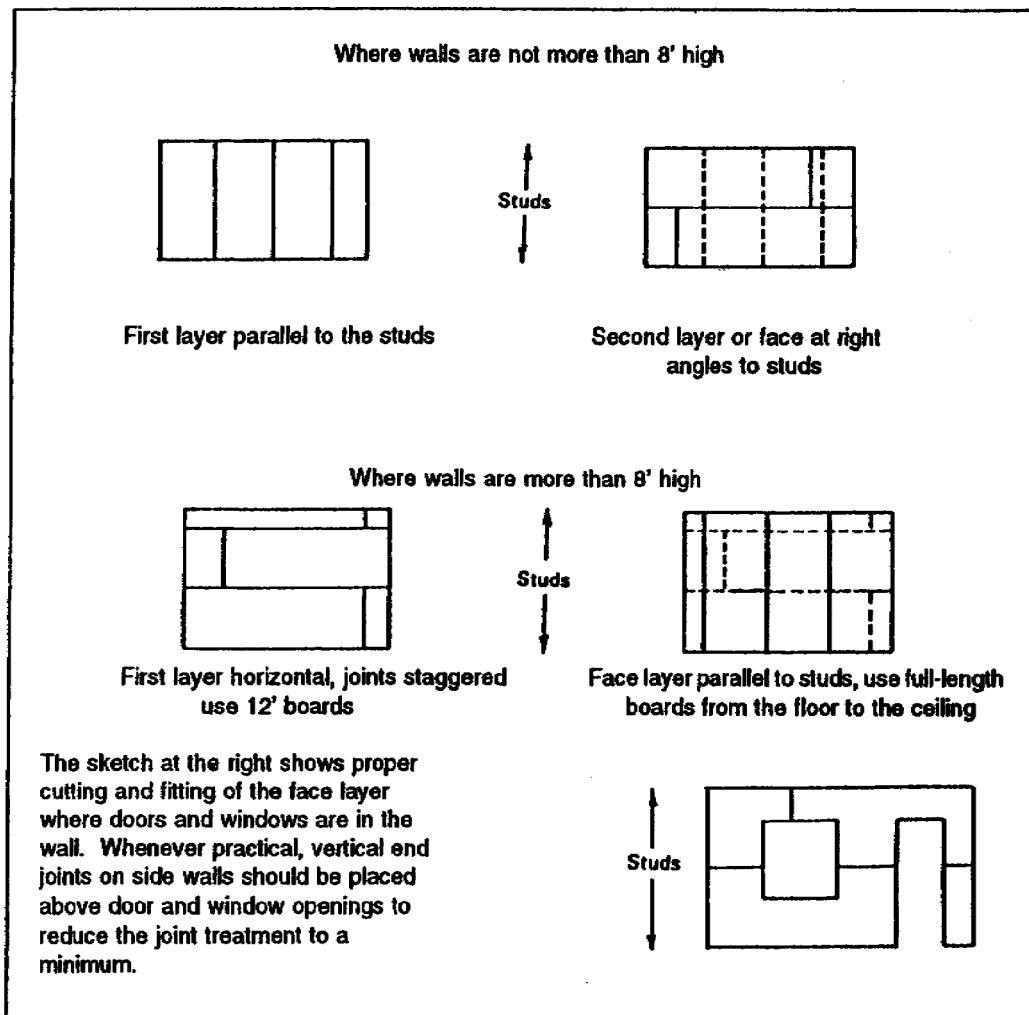

Figure 2-30. Drywall placement
a. Drywall. Sheetrock, fiberboard, and plywood usually comes in 4-foot-wide and 5- to 8-foot-long sheets, 1/4 to 3/4 inch thick. Drywall is applied in either single or double thicknesses with panels placed as shown in Figure 2-30. When covering both walls and ceilings, always start with the ceilings. Use annular ringed nails when applying finished-joint drywall to reduce nail pops.